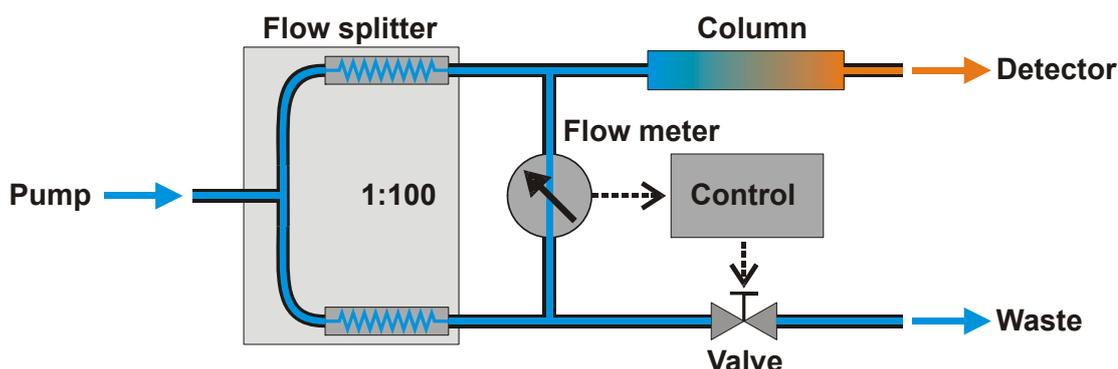

Fig. 1: Operation principle of flow splitting with control
- The flow splitter (→ Fig. 1, page 11) delivers the low flow rates required for nano, capillary, and micro HPLC applications. The flow manager is fitted with a flow splitter identification system that allows you to store splitter-specific information on a chip card and read it out whenever you want.
The flow splitter is equipped with two fluidic resistors that split the flow from the pump in the reciprocal ratio of the resistance. To ensure identical pressure drop at both resistors, the outputs of the flow splitter are connected via a cross arm with integrated flow meter. A controller adjusts the unbalance flow to a very low offset value near zero to flush the cross arm with fresh solvent permanently. To ensure this, the waste path includes an adjustable valve that adjusts in dependence of the column pressure (→ Fig. 1).